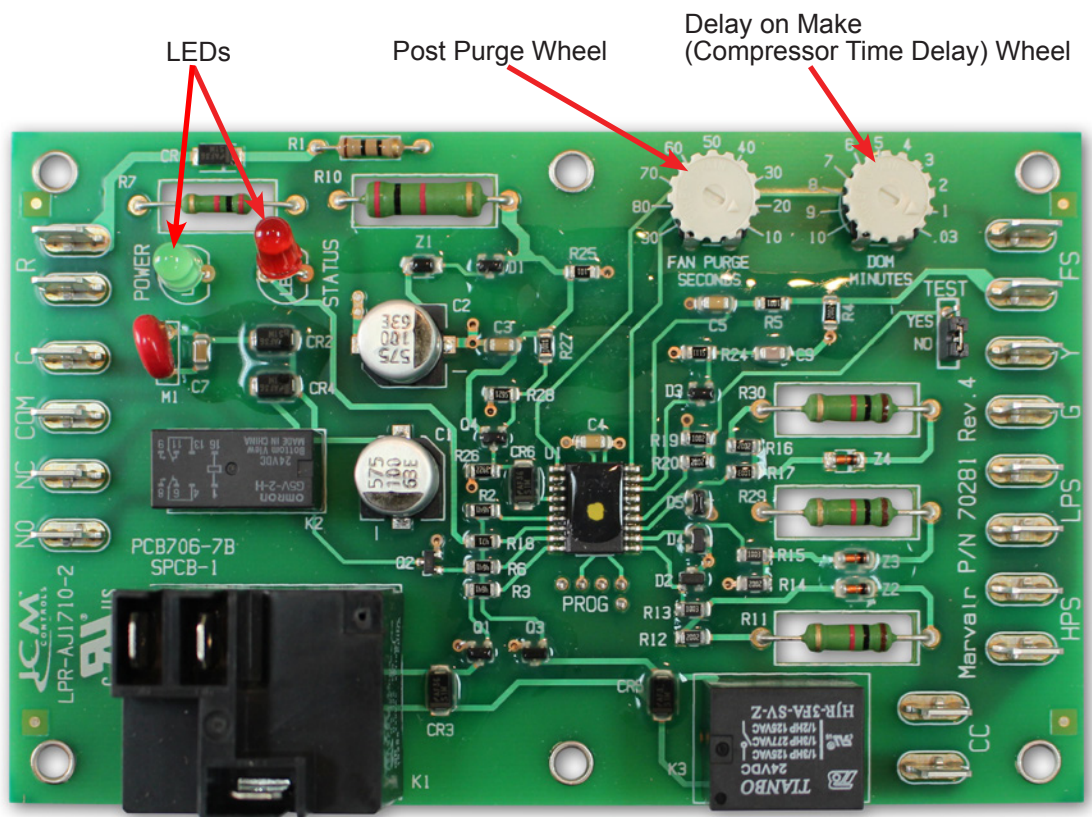

Figure 3. Control Board Detail
3. Refer to Figure 3. Attach the bottom support bracket to the wall using appropriate hardware.